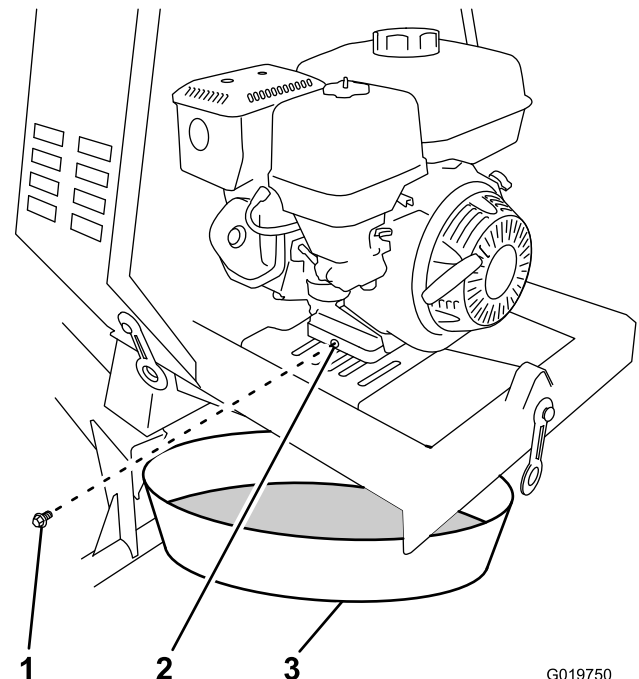

Figure 46
- Place a drain pan under the oil drain hole of the engine (Figure 46).
- Remove the drain plug and catch the oil in the oil drain pan (Figure 46).
- When the oil has drained completely, install the drain plug with a new washer (Figure 46).